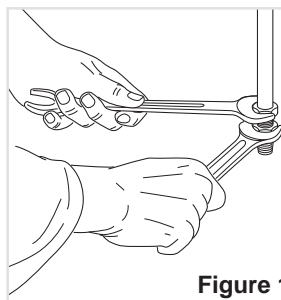

Figure 13
- **IMPORTANT:** Use two spanners to tighten or loosen the connecting pipe (fig. 13).